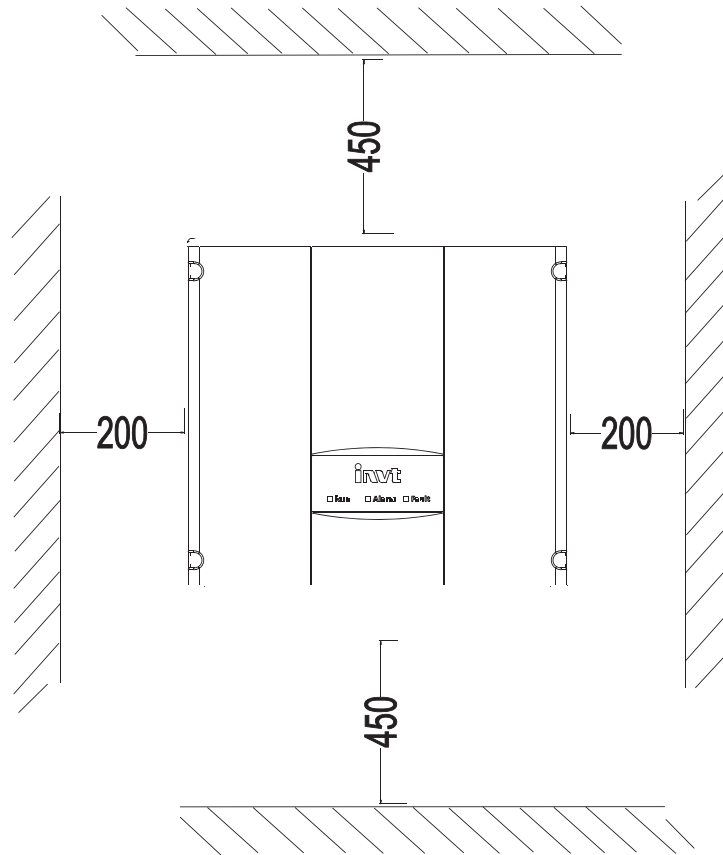
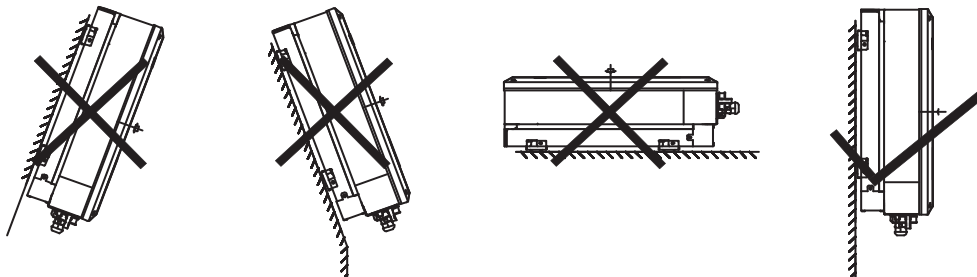

Figure 4.1 Installation space
Figure 4.2 Installation position
- (1) Height from ground level should be enough to ensure that display and status LEDs are easy to read.
- (2) Select a well ventilated place sheltered from direct sun radiation and rain.
- (3) Allow sufficient space around the inverter to enable easy installation and removal from the mounting surface. Refer to Figure 4.1.
- (4) The environment temperature is between -25°C ~ 60°C .
- (5) The installation position keeps away from the interface of other electrical devise.
- (6) The inverter needs to be installed on a firm and sturdy surface, such as wall and metal bracket and so on.
- (7) The installation surface should be perpendicular to the horizontal line. Refer to Figure 4.2.
- (8) The installation should ensure that the inverter is reliably grounded, and the material of grounded metal conductor should be consistent with the metal material reserved for the grounding of the inverter.
Since the installation place can be made by different construction materials, the inverter can be installed by different mounting methods. Take the typical installation environment as the example, the manual describes how to install the inverter on concrete wall. The inverter should be mounted in a vertical position of 90° to the horizontal line as shown in Figure 4.2.